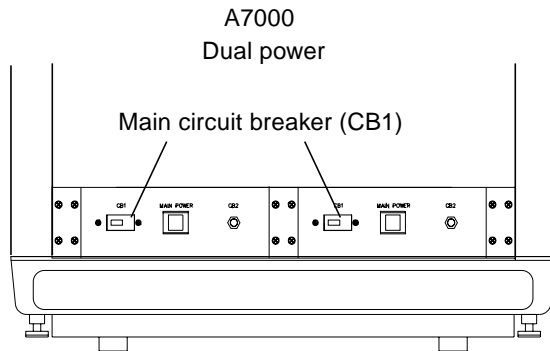

FIGURE 3-8 StorEdge A7000 Circuit Breaker Location
1. **Make sure the A7000 cabinet main circuit breaker CB1 is OFF (thrown to the left).** See FIGURE 3-8.